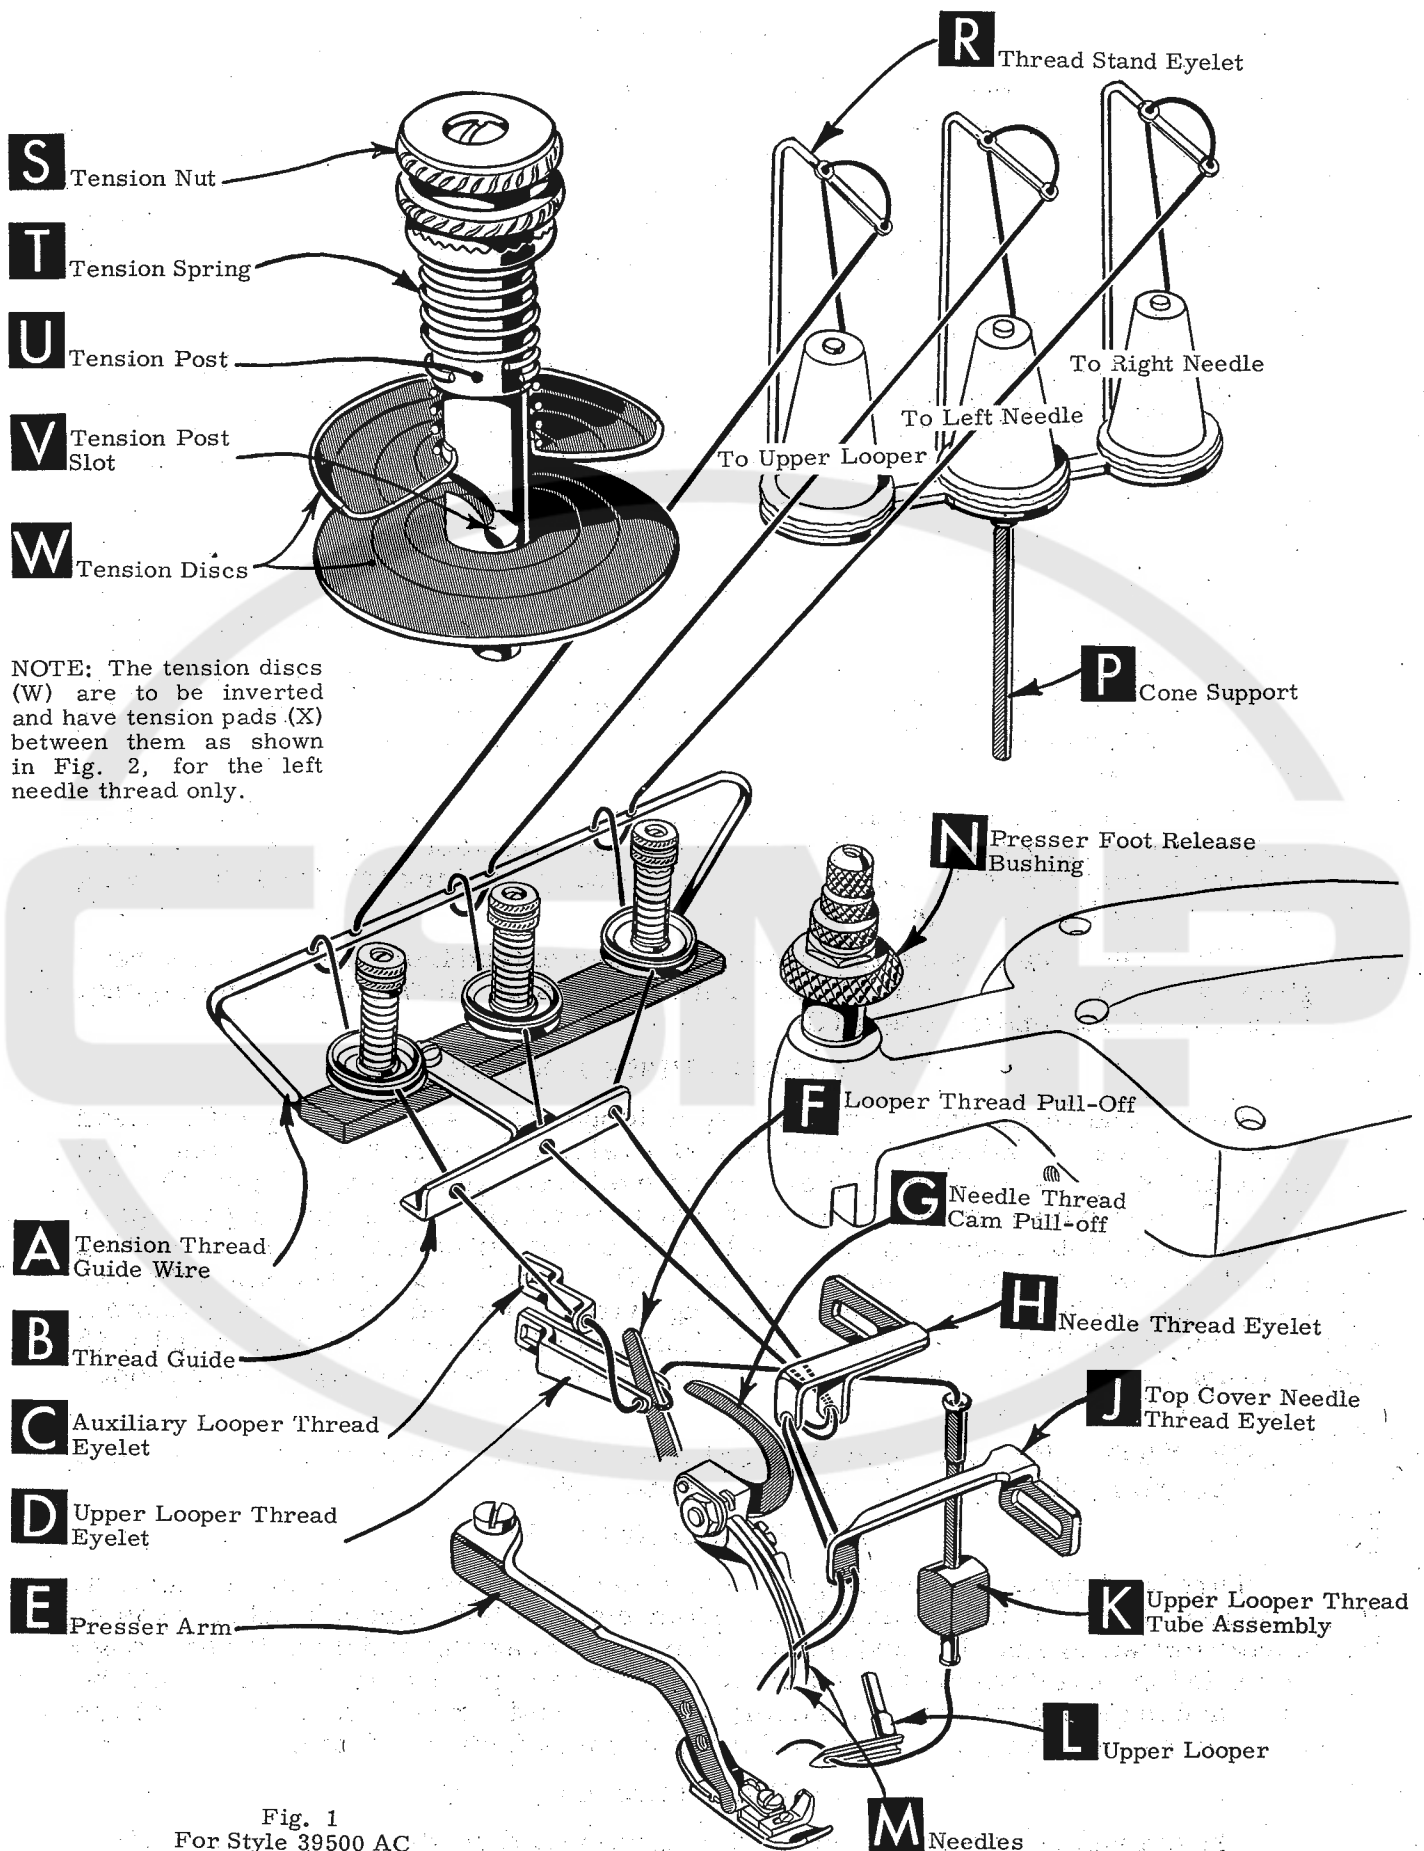
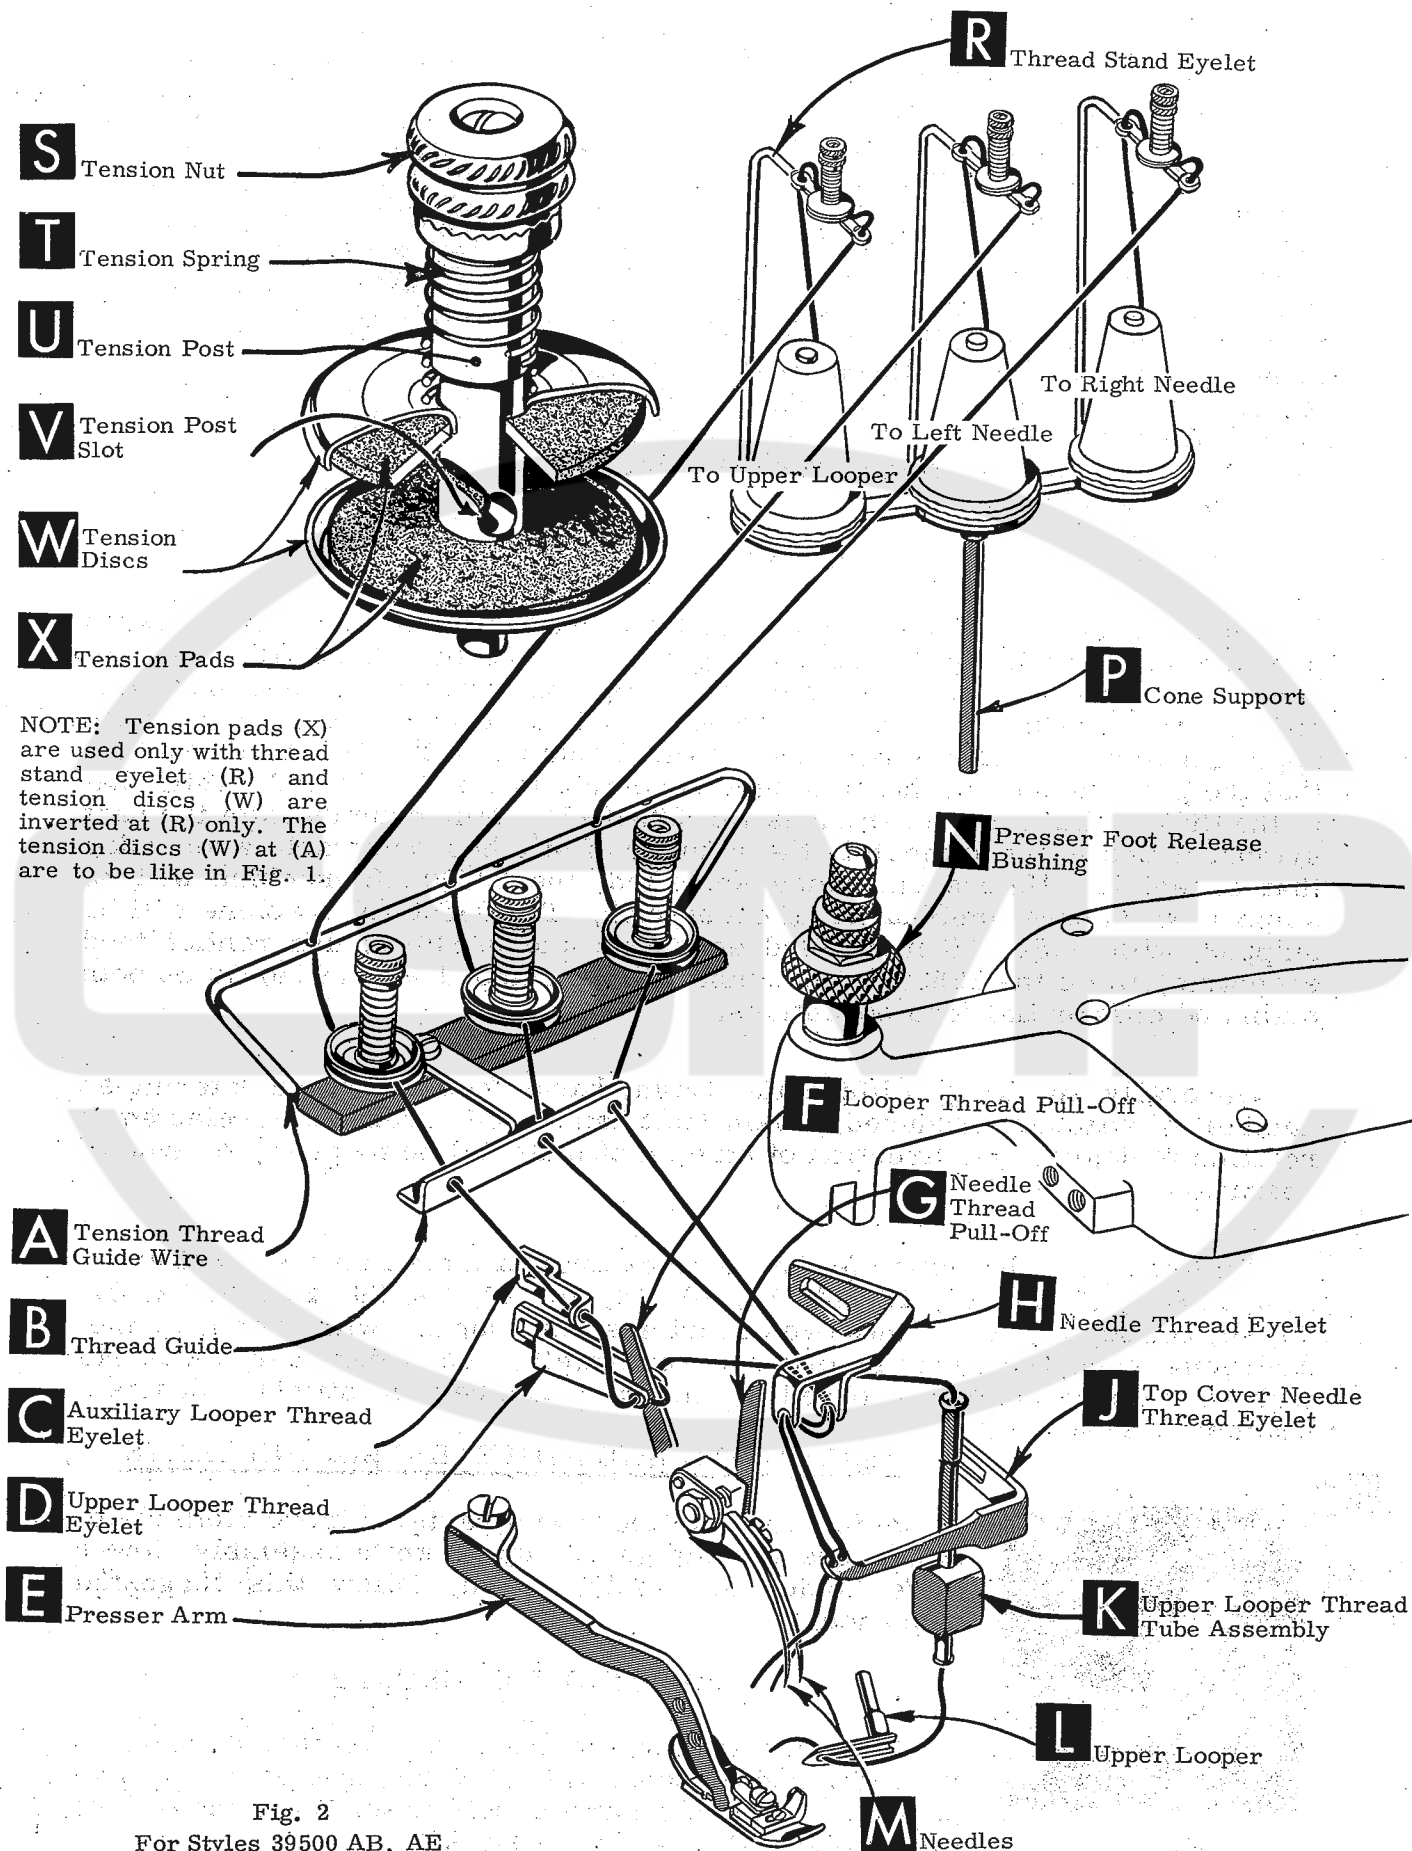

Fig. 1
Fig. 2
Release pressure on presser foot by turning presser foot release bushing (N, Figs. 1 and 2) and swing presser arm (E) out of position. Turn handwheel in the operating direction until needles are at their lowest point of travel. Using hexagonal socket wrench No. 21388 AU, furnished with machine, loosen needle clamp nut about 1/4 turn. Again turn handwheel until needles are at high position. Withdraw needles.
After thread comes from thread cones (positioned on cone support (P)), it is brought up through BACK thread eyelet, then down through FRONT thread eyelet (R, Fig. 1). Next, thread is extended down through the right hand hole and up through left hand hole of the tension thread guide wire (A). Thread is then continued between tension discs (W), through slot (V), and on through thread guide (B).
After thread comes from cones (positioned on cone support (P)), it is brought up through the BACK thread eyelet, then continues between felt pads (X) through slot (V), and down through FRONT thread eyelet (R, Fig. 2). Next, thread is extended down through the left hand hole in the tension thread guide wire (A), through holes in the thread guide (B).
Only parts involved in threading are shown in threading diagrams (Figs. 1 and 2). Parts are presented in their relative positions for clarity.
CAUTION! Make sure the threads, as they extend from the tension thread guide wire (A, Figs. 1 and 2), are between tension discs (W) and in diagonal slots (V) of the tension posts (U).
The amount of tension on the needle and looper threads is regulated by three knurled tension nuts (S, Figs. 1 and 2). Tension on threads should be only sufficient to secure proper stitch formation.
Be sure machine is threaded according to diagram for your style of machine (either Fig. 1 or Fig. 2). With thread tensions light, set looper thread eyelet (D, Figs. 1 and 2) about horizontal and back in its front to back location. Operate machine slowly, without presser foot in place, to make sure that chain forms and moves off the tongue freely. Swing presser foot into position, insert material, and sew slowly.
About 60% of needle thread is drawn from cones on needle down stroke. The remaining 40% is drawn on the upstroke. With needle at bottom of stroke, position needle thread eyelet (H, Fig. 1) so that needle thread cam pull-off (G) just contacts needle thread.
Usually, all needle thread is drawn on needle down stroke. At top of needle stroke, thread should be just tight enough to feed chain off stitch tongue. Needle threads tend to pull down slightly if excessive thread is pulled on the up stroke. With needles at bottom of stroke, position needle thread pull-off eyelet (H, Fig. 2) so that the needle thread pull-off (G) draws the proper amount of needle thread to satisfy the above conditions.
During needle down stroke, forward stroke of looper thread pull-off (F, Fig. 1 or Fig. 2) will draw upper looper thread through the tension. When normal amount of looper thread is drawn, upper looper thread will have almost all slack taken up as looper thread pull-off reaches its most rearward position.
If upper looper thread has a loose appearance in the seam, move looper thread pull-off eyelet (D, Fig. 1) forward and raise slightly. If, however, the eyelet is raised too high and moved too far forward, the looper thread will tend to break excessively--even with a minimum amount of looper thread tension applied.
If upper looper thread has loose appearance in the seam, move looper thread pull-off eyelet (D, Fig. 2) forward slightly. If, however, the eyelet is too far forward, the looper thread will tend to break excessively--even with a minimum amount of looper thread tension applied.
Raising and bringing the looper thread pull-off eyelet (D, Fig. 1) forward causes less thread to be pulled from the cones as the looper travels to the top of its stroke and causes the purl to form more on the top of the edge. If the eyelet is raised and brought too far forward, however, the thread becomes too tight, resulting in looper thread breakage. With a reasonable amount of looper thread tension to insure a flexible chain, the looper thread pull-off eyelet should be adjusted to position the purl as desired.
Moving the needle thread pull-off eyelet (H, Fig. 2) back causes less thread to be pulled from the cones as the needles travel to the top of their stroke and causes the purl to form more on the top of the edge. If the eyelet is moved back too far, however, the threads become slack at the top of the stroke and the chain will not feed off the throat plate tongue. With a reasonable minimum needle thread tension to insure uniformity, the needle thread pull-off eyelet should be adjusted to position the purl as desired.